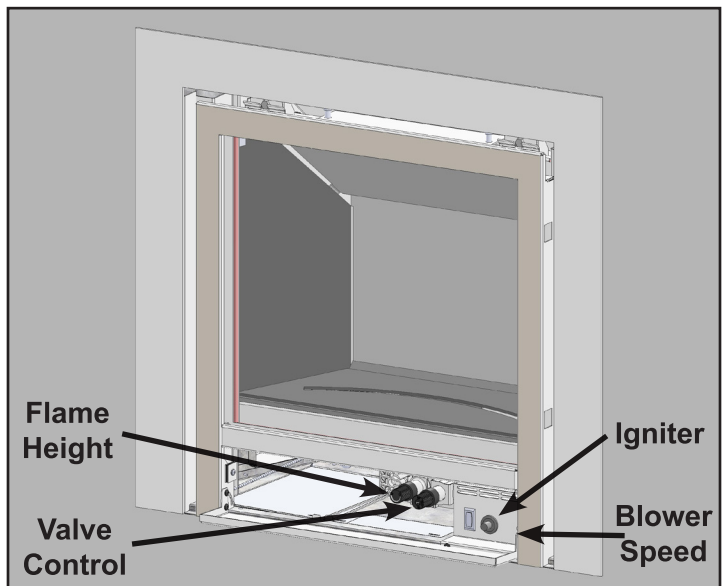

Fig.2
The CLARITY CL2118 SP controls are located behind the hinged flap beneath the firebox. (**Fig.2**) To light the burner follow the steps below:
4. Turn the "Flame Height" knob to the desired flame height. (**Fig.2**)
Turn the blower on by turning the "Fan speed" knob clockwise . (**Fig.2**) The blower will only come on when the fireplace is up to temperature (approximately 10-15 minutes). Fan speed control sequence is off, then maximum to minimum. The speed of the fan can be decreased by turning the knob clockwise . The speed of the fan can be increased by turning the knob counterclockwise . The blower will continue to operate after the burner is turned off (approximately 15-20 minutes). To turn the blower off manually, turn the fan control knob counterclockwise  until it "clicks".